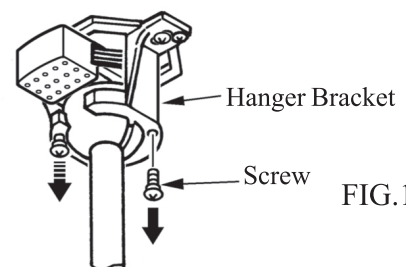

FIG.10
3. Remove one of screws and loosen the other screw from the hanger bracket. (See fig.10)